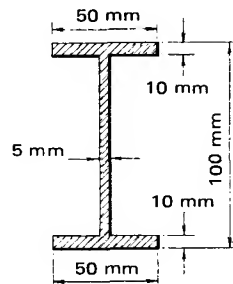

Fig. 1.51
- Find the mass of the I-section shown in Fig. 1.51 if its length is 1.2 m. The density of the metal is 7750 kg/m^3 .